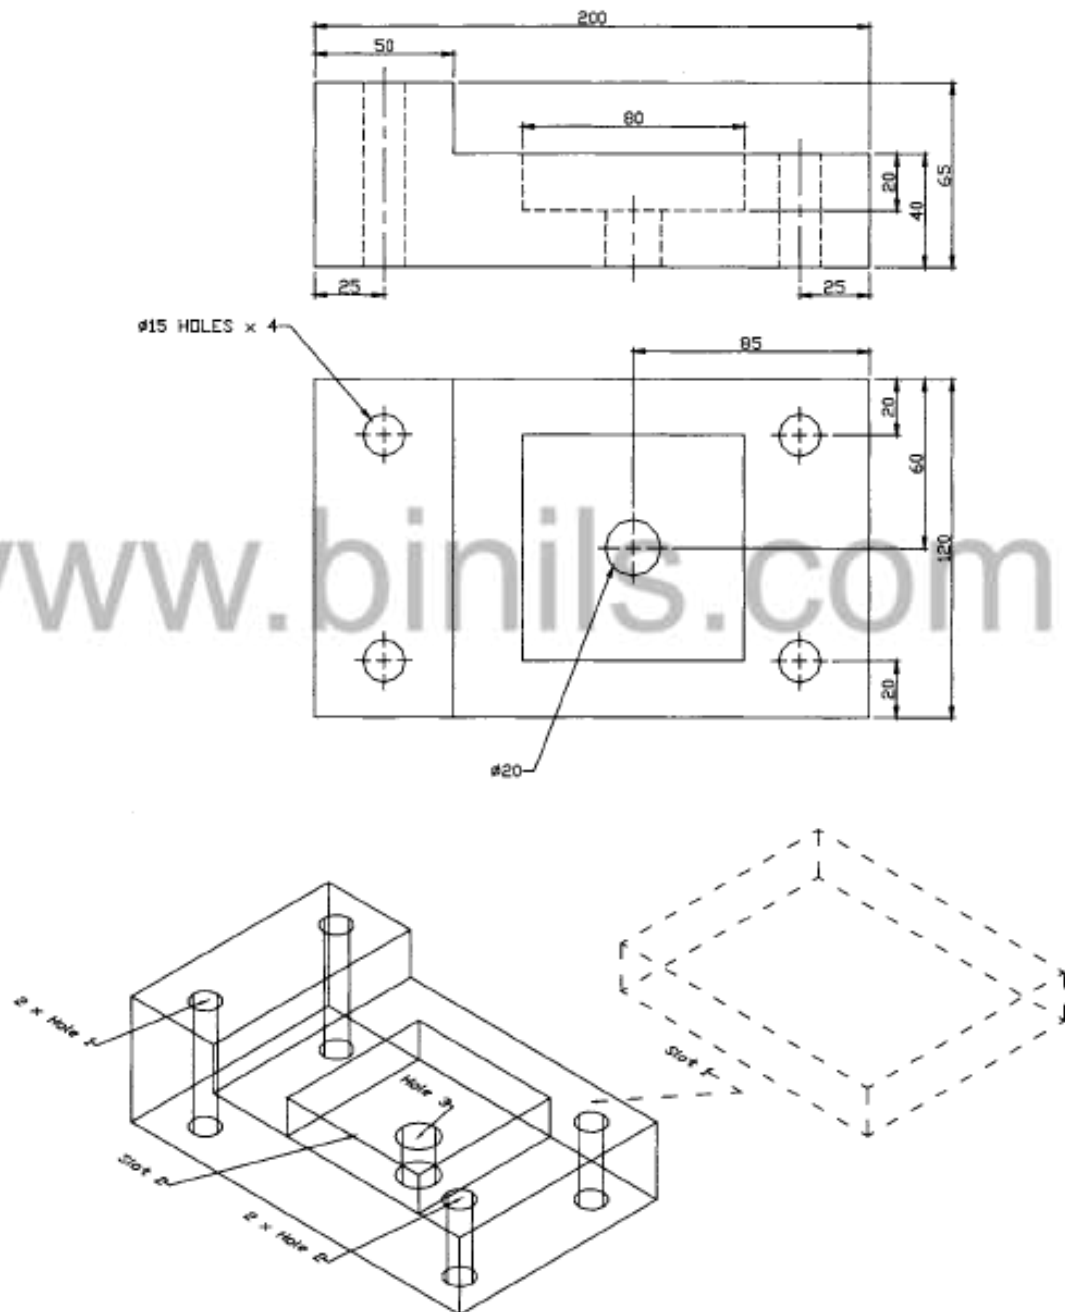

Figure 1
1. Consider the simple component illustrated in Fig.1. An analysis of the geometry, based on the matrix in Fig.2, indicates that this type of component would be produced by milling the slots and drilling the holes. The production of both the slots and the holes can be carried out on a milling machine. Therefore, determine the sequence of operations to produce these features on a milling machine if the billet is 200mm x 120mm x 65mm.